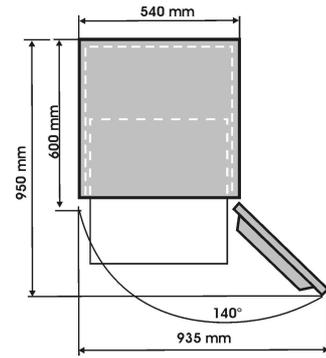

Fig 2
3. Make sure that sufficient room is provided around the appliance to ensure free air circulation (**Fig 2**).
- Open the door of the appliance to make sure that there is enough space for the door to open properly (**Fig 2**).